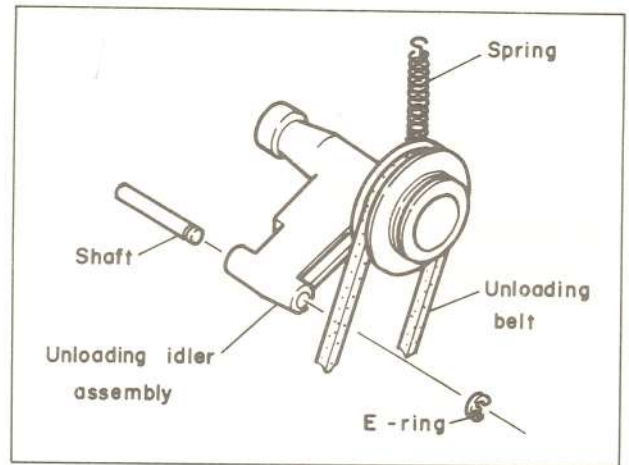

Fig. 4-18 Unloading idler assembly
7. Remove the E-ring and spring as shown in Fig. 4-18.